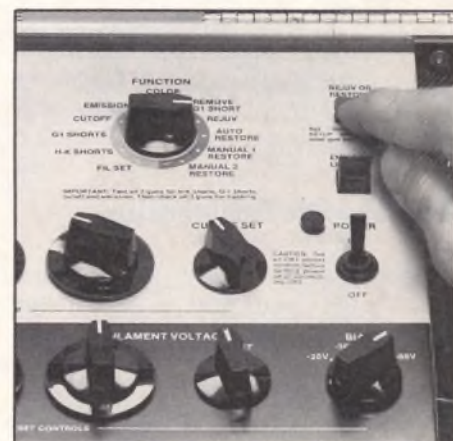

Fig. 3: The CR70's progressive restoration is an important money maker for many shops.
Fig. 3: VCR servo circuits need a stable 30 Hz signal source as a reference. During record, vertical sync is divided to 30 Hz to feed the control amps (D) and the cylinder phase control (G). During playback, 3.58 MHz from the color circuits (B) is divided down to 30 Hz.
The capstan motor (Figure 3-A), either by toothed magnetic elements (one fixed, the other moving within it), Hall effect devices or fixed coils located near the outside diameter of the motor's magnetic flywheel, generates FG pulses of a certain frequency determined by the flywheel speed (720 Hz in SP, 360 Hz in LP, or 240 Hz in the EP speed).
Note: These Frequency Generator pulses are used to measure and maintain correct capstan operating speed in both record and playback by comparison with the divided 3.58 MHz reference (Figure 3-B).
In the playback mode the divided 3.58 MHz reference signal (30 Hz) is passed to the tracking control circuit monostable multivibrator, which allows adjustment when playing tapes that were recorded in other machines (Figure 3-C). The 30 Hz reference is compared with the 30 Hz CTL pulse (Figure 3-D), to provide the phase error signal to the capstan motor drive circuit.
The cylinder motor (Figure 3-E), like the capstan motor, makes use of a frequency generator (FG) device to produce a 360 Hz signal when it is operating at its correct speed. This signal is divided by 12 (to give 30 Hz) and compared to divided vertical sync during record and to divided 3.58 MHz during playback.
From the PG pulses another waveform (Figure 3-F) is developed, known as the RF switch (or head switching) pulse. During formation of the RF switch pulse, the negative PG pulse is ignored and only the positive portion of the pulse is used. The RF switch pulse switches the video head during playback.
For the cylinder motor, digital counters (Figure 3-G), clocked by divided 3.58 MHz (cylinder speed $F_{sc}/2$ and cylinder phase by $F_{sc}/8$), develop the error information which
is then used to pulse width modulate a 1750 Hz carrier. Pulse width modulation refers to the ability to control the duty cycle or "on time" of a rectangular waveform. In the case of capstan digital speed error development (Figure 3-H), the master clock is again divided 3.58 MHz (See Figure 5). The divide rate is controlled by the speed select circuit. The digital phase error clock frequency is 447 kHz.
These pulse-width modulated signals, two from the cylinder circuit and two from the capstan circuit, are routed through low pass filters and become DC levels which are then applied to adder circuits (Figure 3-I). The results become the cylinder and capstan motor servo drive voltages.